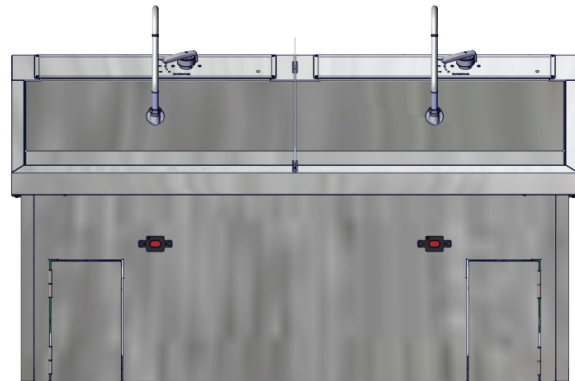

Fig. 18: SS64-IR-FSP with new base
16. The new sink base installation is complete (Fig. 18). Plug in power sources.